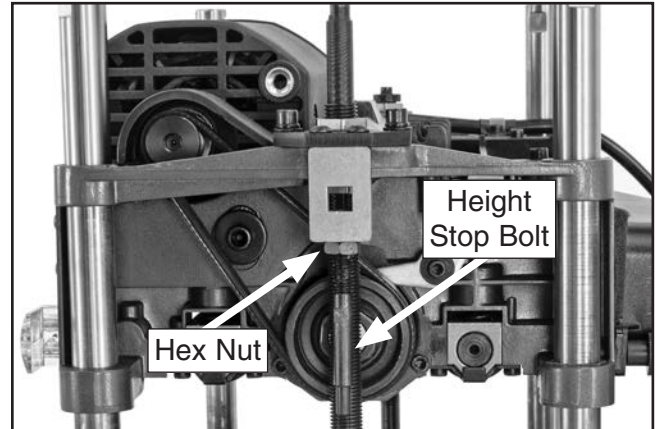

Figure 48. Components to adjust depth stop height.
4. Loosen hex nut (see **Figure 48**) and adjust height stop bolt up or down to increase or decrease depth of cut.